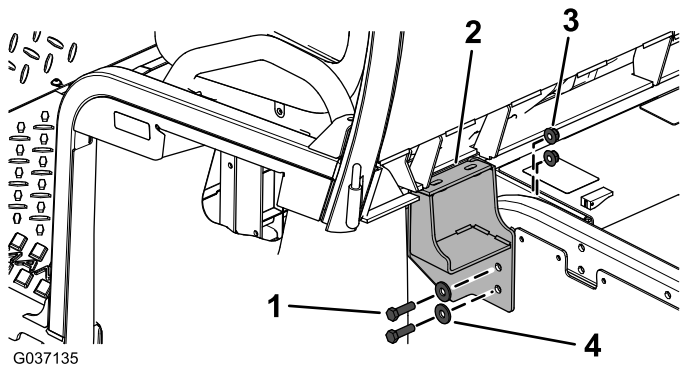

**Figure 6**
- Using the new floor-plate supports as a guide, drill 3 holes (3/8-inch diameter) into each floor plate (Figure 6).
**Important:** Drill only the front 2 holes on the new floor-plate supports and the farthest, rear hole; as shown in Figure 6.